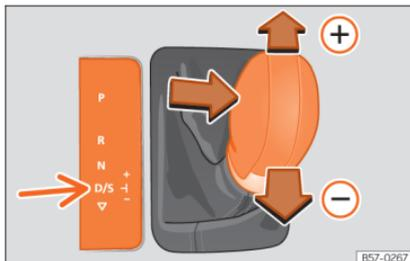

Fig. 163 Lever in the Tiptronic position
- Push the lever forwards or backwards to move up or down a gear **>>> Fig. 163**.